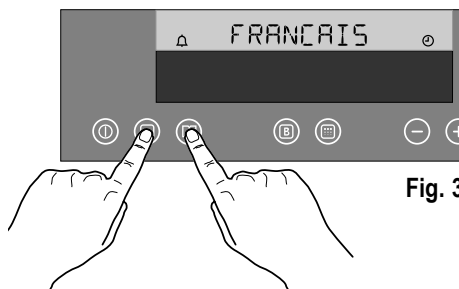

Fig. 3
1. Touch the "Cooking Function Control"  and the "Recipe Selection Control"  at the same time and keep them pressed for 2 seconds at least. The Electronic Control beeps once and the display shows the current language selection (Fig. 3).